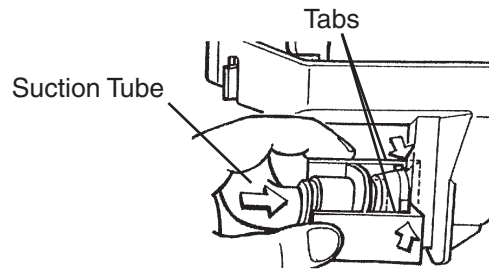

Fig. 33
- 7) Reconnect the suction tube as illustrated. See Fig. 33. Make sure the tabs lock into place; a loose fitting may cause a water leak.